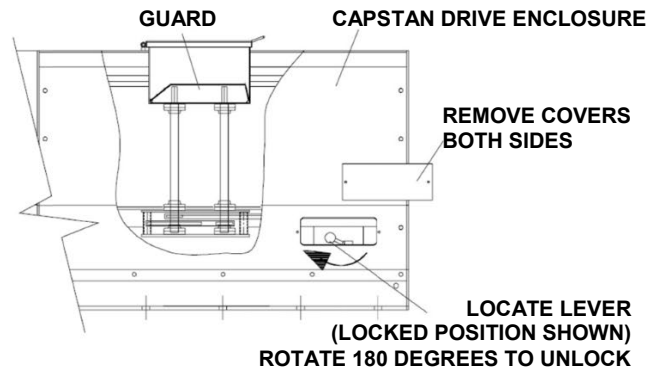

Figure 27
2) Release the Capstan Drive (electrically powered gate only) (Figure 27).
4) Reverse order to close and lock gate. Return lever to its original position (Figure 27).
Troubleshooting indicates that the gate may not have been properly restored after manual operation. Open the Bulkhead Cover and check to make sure the Manual Jack is all the way rearward (furthest from the midpoint of the gate assembly) and that the Safety Retaining Pin is in place. Make sure the Capstan Drive Cable is attached to the bulkheads and the cable clamps tightened. The Capstan Lock Lever must be in the locked position (Figure 27).